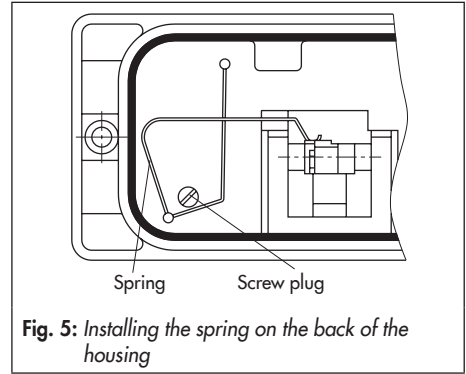
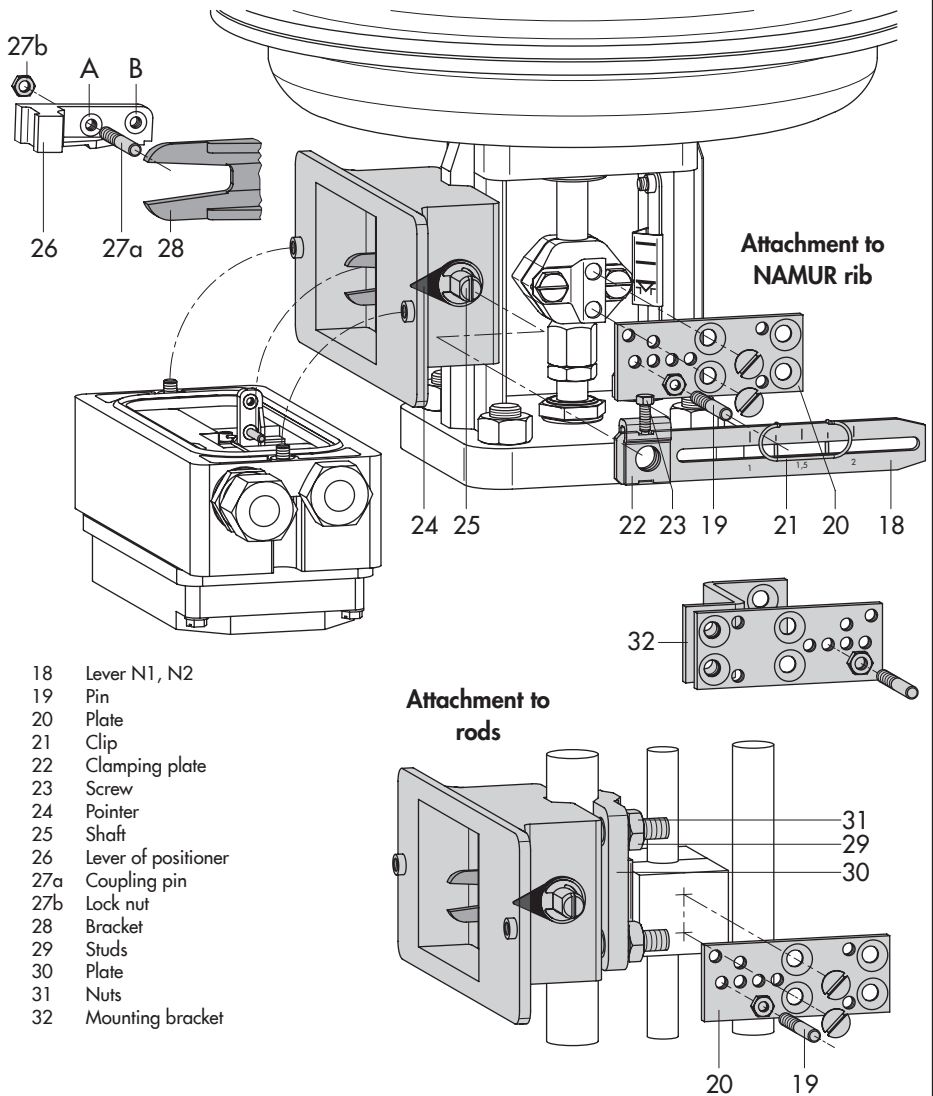

Fig. 5: Installing the spring on the back of the housing
Fig. 7: Attachment according to IEC 60534-6 (NAMUR)
7. Remove screw plug on the back of the positioner (Fig. 5) and seal the side signal pressure output with the stopper included in the accessories.
8. Mount the positioner so that the hole in the intermediate plate (15) covers the seal in the hole of the actuator yoke.
An adapter housing is used for attachment (Fig. 7). The valve travel is transmitted by the lever (18) and the shaft (25) to the bracket (28) of the adapter housing and then passed on to the pin (27a) on the lever of the positioner. To ensure that the pin (27a) is properly located in the bracket (28), fix the spring included in the accessories at the back of the positioner housing as illustrated in Fig. 5.
The positioner can be mounted either on the left or right side of the control valve (Fig. 6 and Fig. 7). Turn the positioner at the adapter housing by 180° to determine or change the operating direction of the positioner/control valve unit.
| Mounting position on the plate looking onto the travel pick-up (20), actuator facing upward (see also Fig. 7) |                                   |                                  |                                   |
Select the required mounting parts and range spring from Table 5 and install them as illustrated in Fig. 7:
2. Move the shaft (25) in the adapter housing so that the black pointer (24) matches the cast marking on the adapter housing.
3. Fasten the clamping plate (22) in this position using the screw (23).
4. Screw the pin (27a) into the positioner lever on the side where the press nut is located. Lock it in position with the hex nut on the other side, observing the mounting position A or B according to Table 6 and Fig. 7.
5. Place the positioner on the adapter housing, taking into account the mounting direction. Fasten it, making sure that the pin (27a) rests against the bracket (28). The pin must not slip out of the bracket once installed.
| NAMUR mounting kit,see Fig. 7 for parts.   | Valve with cast yoke  |               | 7.5 to 60                              |             | N1 (125 mm) | 1400-6787                     |